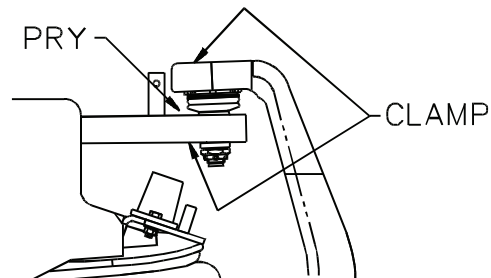

Figure 7 - Ball Joint Pry Bar Locations
3. Using a C-clamp, squeeze the knuckle and the upper control arm together to seat the ball joint. (See Figure 7). Do not apply excessive clamp load.
5. Release the clamp. Place the pry bar between the upper control arm and steering knuckle. (See Figure 7). **Do not allow the pry bar to contact the ball joint seal.** Firmly pry downward using the steering knuckle as a fulcrum to lower the upper control arm. The pry load must not cause the tire or brake drum to be lifted off its support thus causing the suspension to change position.